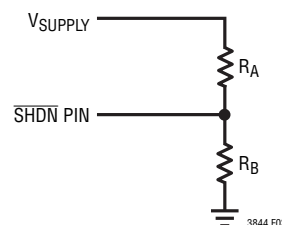

Figure 3. Undervoltage Lockout Circuit
When laying out the printed circuit board, the following checklist should be used to ensure proper operation. These items are illustrated graphically in the layout diagram of Figure 3.
- Locate the  $V_{CC}$  and BOOST capacitors in close proximity to the IC. These capacitors carry the MOSFET driver's high peak currents. Place the small-signal components away from high frequency switching nodes (BOOST, SW and TG). In the layout shown in Figure 3, place all the small-signal components on one side of the IC and all the power components on the other. This helps to keep the signal and power grounds separate.